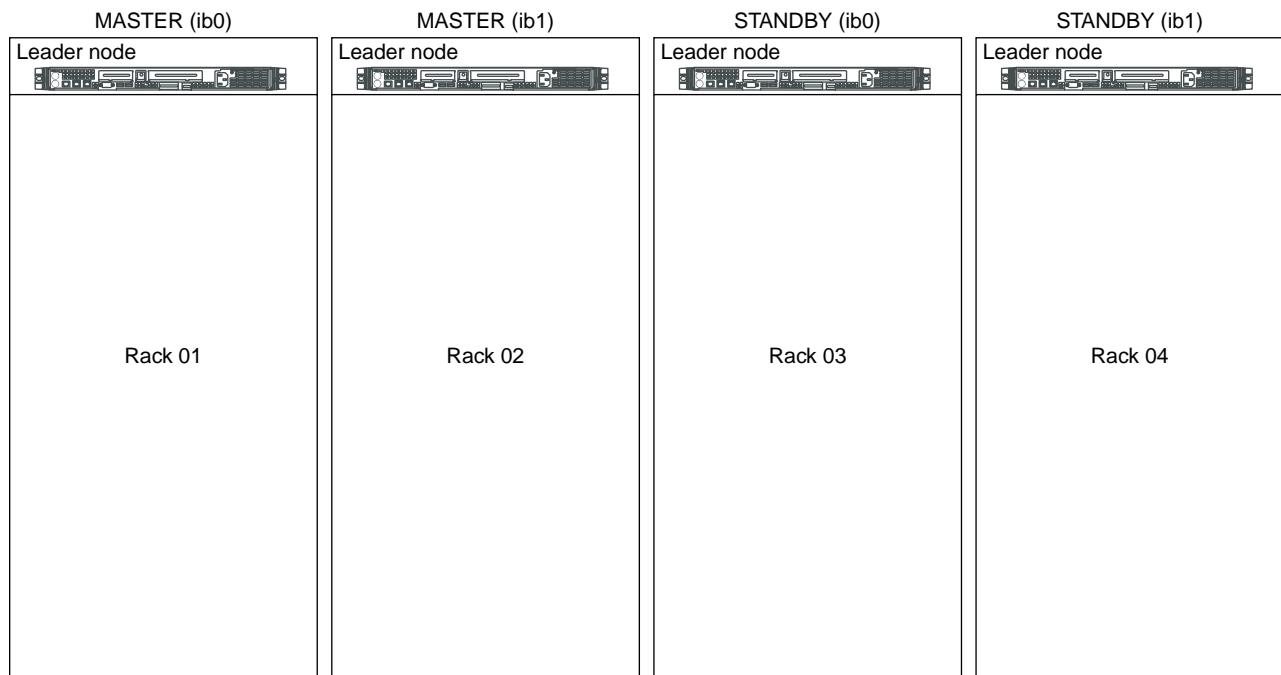

Figure 4-4 `opensm` Software Failover
Each subnet manager (SM) has a failover mechanism. If the master SM fails, the standby SM takes over operation of the fabric. This failover operation is performed automatically by the `opensm` software. Typically, `rack1` is the MASTER for the `ib0` fabric and `rack2` has the MASTER for the `ib1` fabric, as shown in Figure 4-4 on page 206.